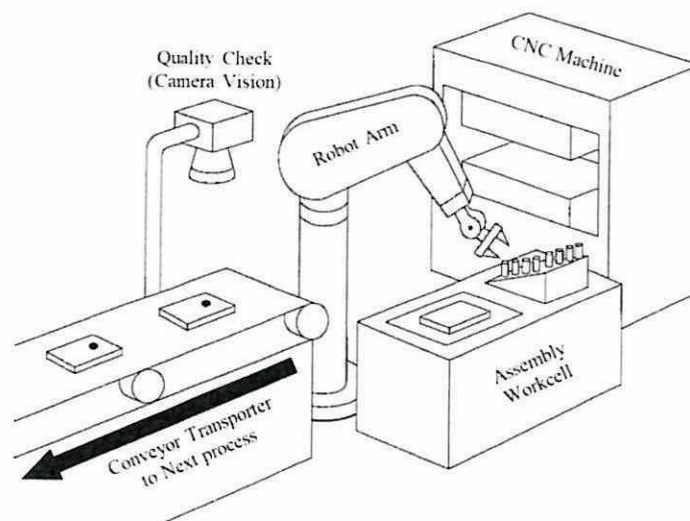

Figure Q5.1
- Q5** (a) Define **THREE (3)** common programming approaches used in industrial robotics. (6 marks)
- (c) Consider the industrial robotic setup shown in **Figure Q5.1**. The robot is equipped to perform tasks on a production line.